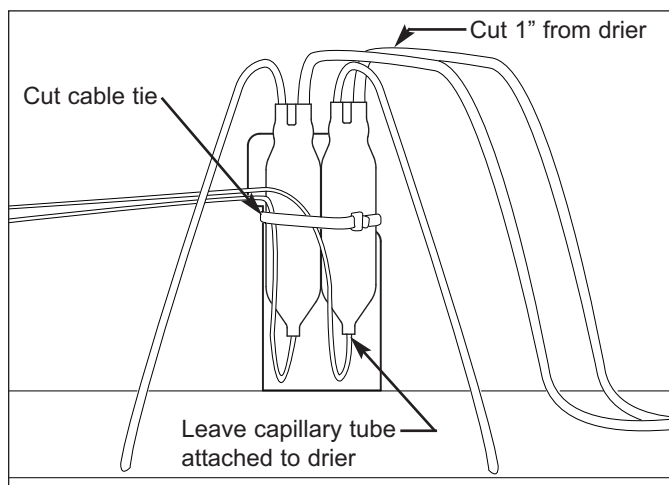

Figure 7-55. Cut Inlet to Filter-Drier
3. Since the filter-drier will be replaced at the same time, cut drier inlet tube approximately one inch from drier, leaving capillary tube attached. (See Figure 7-55)